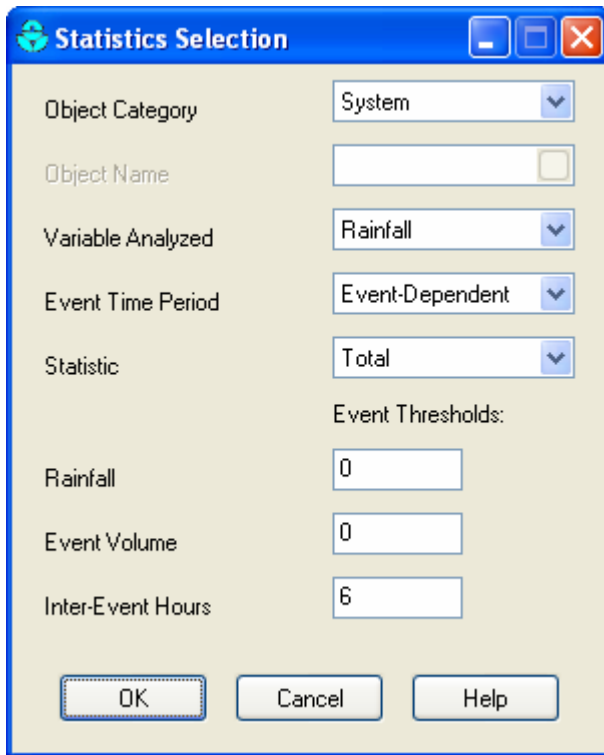

Figure 2-24. Statistics Selection dialog.
2. In the Statistics Selection dialog that appears, enter the values shown in Figure 2-24.